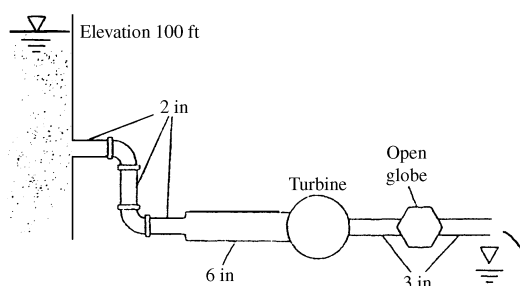

Fig. P6.109
6.109 In Fig. P6.109 there are 125 ft of 2-in pipe, 75 ft of 6-in pipe, and 150 ft of 3-in pipe, all cast iron. There are three 90° elbows and an open globe valve, all flanged. If the exit elevation is zero, what horsepower is extracted by the turbine when the flow rate is 0.16 ft³/s of water at 20°C?